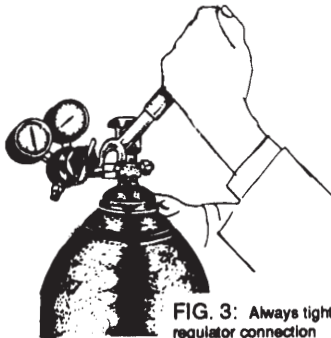

FIG. 3: Always tighten regulator connection nuts with a wrench.
7. Attach the oxygen regulator to the oxygen cylinder and secure tightly using a proper fitting wrench (FIGURE 3). Connection has right hand threads, turn clockwise.